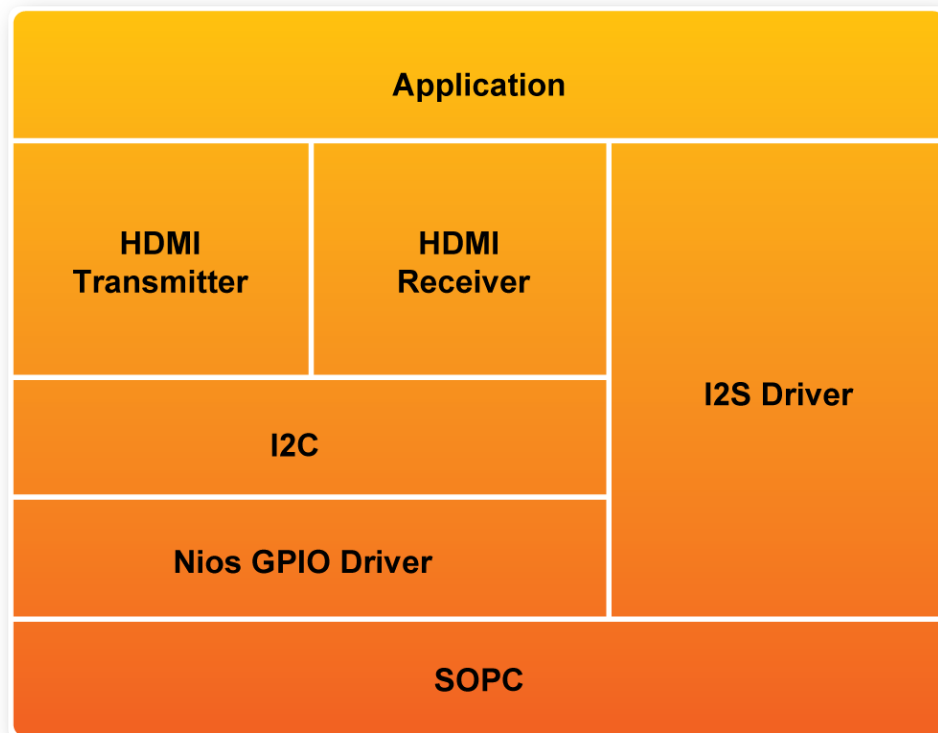

**Figure 4-2 Software Stack**
**Figure 4-2** shows the software stack of the Nios II program. The I2C block implements the I2C read/write functions based on GPIO system call. The HDMI receiver block is referred as the HDMI driver. The HDMI receiver chip is managed and controlled through the I2C protocol.